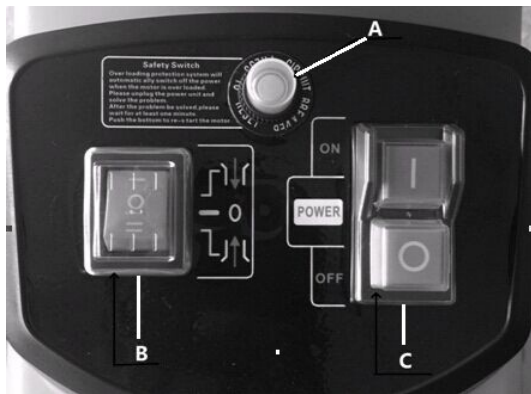

Fig.4
- Press the Forward/Reverse Button (B) to REVERSE "-"  position.
- Press and hold the On/Off switch to ON(I) position to remove any objects that could obstruct the blades.(Fig.4)